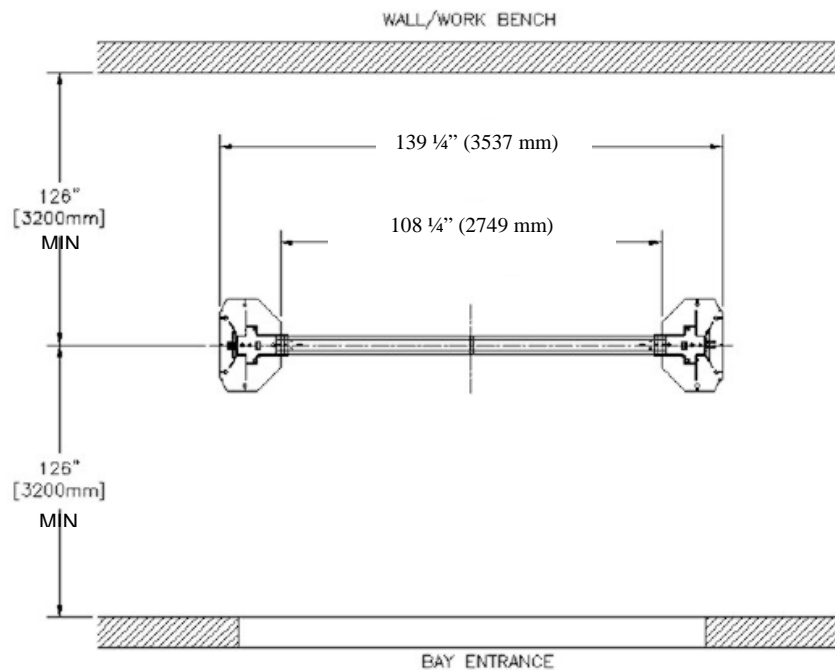

Figure 4. Bay Layout
3. Locate the power side and slave side towers and position them as shown in Figure 4. Double check all the dimensions in the layout.
5. Check the towers to make sure they are located, and positioned in the correct location. Figure 4.